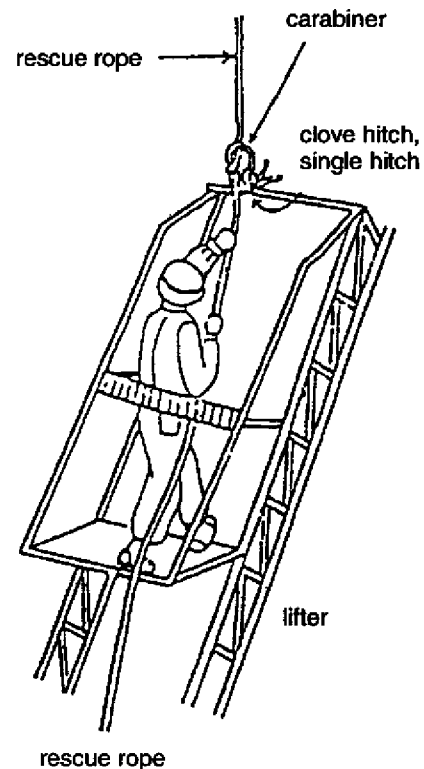

Fig. 7-19
- c. Secure the rescue rope with both hands on the rope while standing in the lifter. (Fig. 7-19)